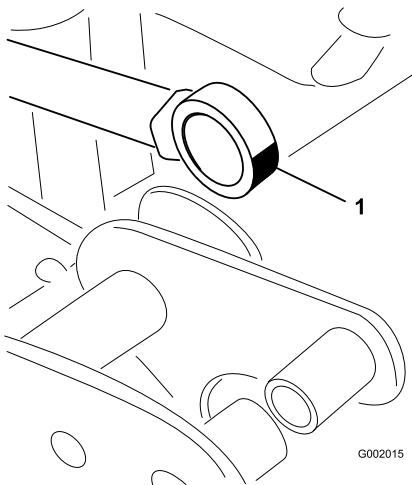

Figure 46
5. Manipulate the actuator rod bearing end and apply grease into the bearing (Figure 46). Wipe off excess grease.